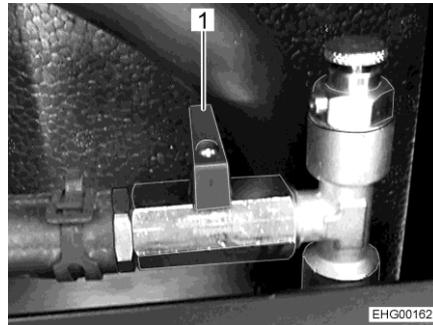

Fig. 179 Spherical valve (closed)
- Set the lever (Fig. 179,1) at right angles to the pipe.